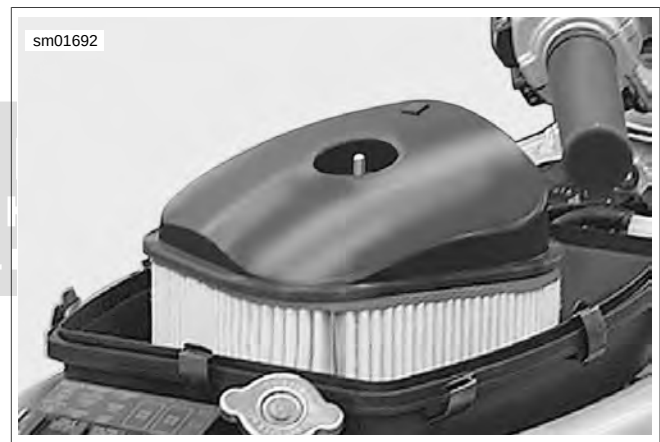

Figure 1-10. Air Filter
5. See Figure 1-10. Remove wing nut securing filter cap and air filter.